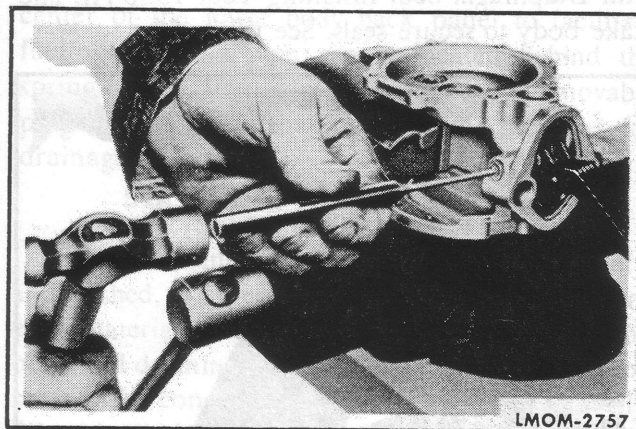

Fig. 55—Drive Rocker Arm Pin from the Main Body.
10. File off peened end of rocker arm pin until it is flush with the washer. Drive pin from the main body. See figure 55.